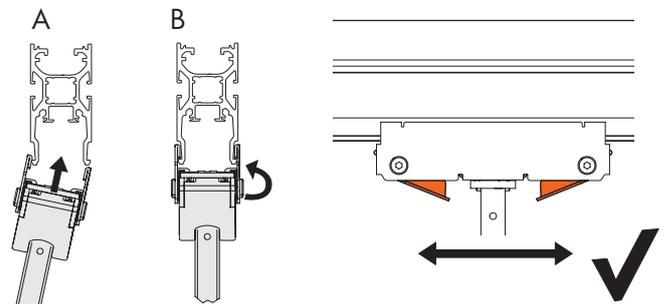

Fig. 27: Inserting and sliding
3. Insert the hanger adapter into the Multi-Lane ceiling rail slightly at an angle (Fig. 27/A) and turn it straight (Fig. 27/B).